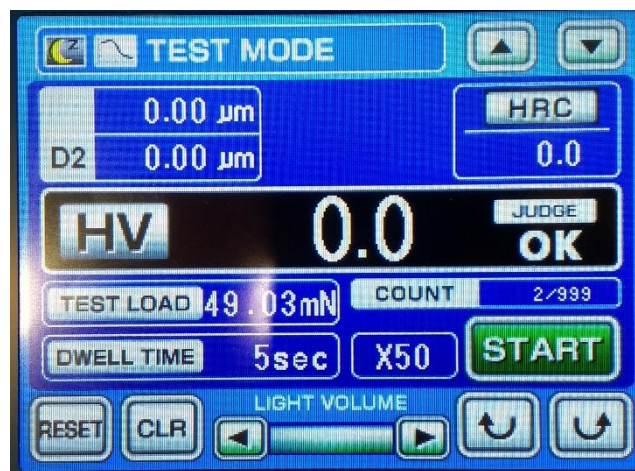

Figure 2. Test Mode Screen
- a. The screen visible after turning on the machine should look like Figure 2.
- d. The indentation force can be adjusted by turning the load selector knob (14) on the top right of the machine. This knob is marked in units of grams force, but the screen is set for milli-Newtons. For brittle materials a low test load is recommended since too high of a test load can shatter the sample, making the test data worthless. However a larger test load leads to a more accurate result.